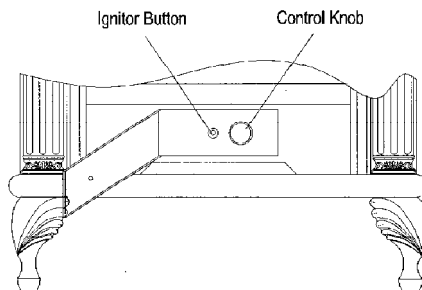

Figure 11 - Control Knob and Ignitor Button location
- Wait five (5) minutes to clear out any gas. Then smell for gas, including near the floor. If you smell gas, STOP! Follow "B" in the safety information on page 2. If you don't smell gas, go to the next step.
- Turn control knob counterclockwise ↻ to the PILOT position. Press in control knob for five seconds (see Figure 11).